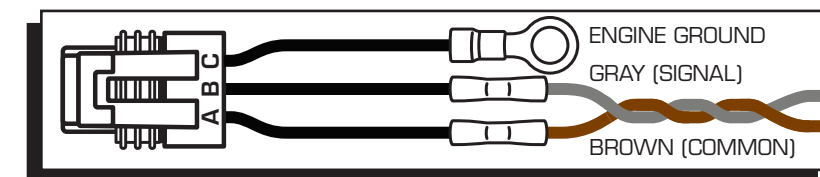
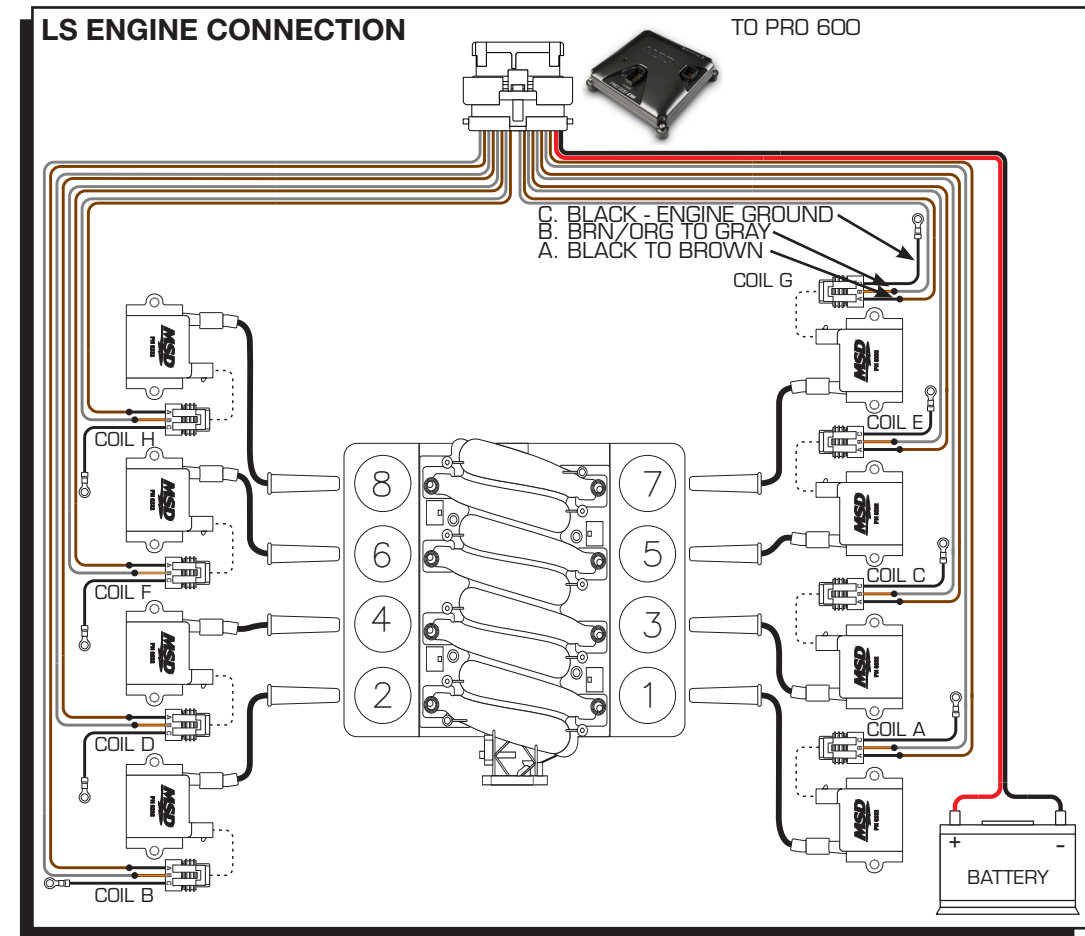

Figure 3. MSD 8232 Pigtail connector
Figure 8. MSD PN 8232 Wiring
The MSD 8232 coil includes a pre-wired 3-pin connector (Figure 3). Each of the wires must be connected securely. (See Figure 8)
- Connect each of the paired outputs A to H to its corresponding coil 1 thru 8 as in **Figure 8**.